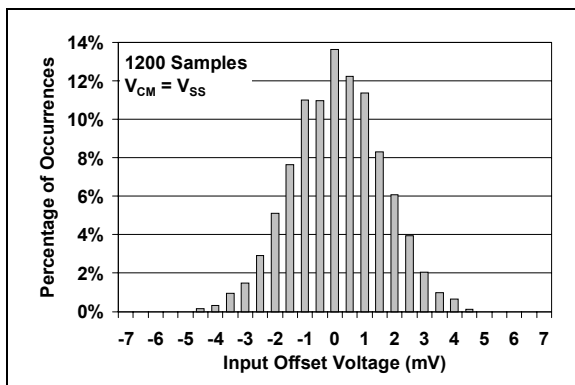

**FIGURE 1-3:** AC and DC Test circuit for the open-drain output comparators.
**Electrical Specifications:** Unless otherwise indicated,  $V_{DD} = +1.6V$  to  $+5.5V$ ,  $V_{SS} = GND$ ,  $T_A = 25^{\circ}C$ ,  $V_{IN+} = V_{DD}/2$ ,  $V_{IN-} = V_{SS}$ ,  $R_{PU} = 2.74$  k $\Omega$  to  $V_{PU} = V_{DD}$  (Refer to Figure 1-3).
**Electrical Specifications:** Unless otherwise indicated,  $V_{DD} = +1.6V$  to  $+5.5V$ ,  $V_{SS} = GND$ ,  $T_A = 25^\circ C$ ,  $V_{IN+} = V_{DD}/2$ , Step = 200 mV, Overdrive = 100 mV,  $R_{PU} = 2.74\text{ k}\Omega$  to  $V_{PU} = V_{DD}$ , and  $C_L = 36\text{ pF}$  (Refer to Figure 1-2 and Figure 1-3).